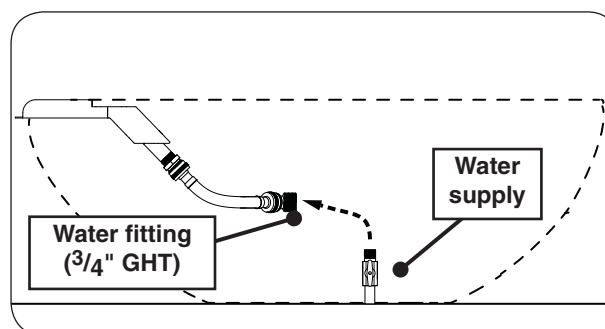

Fig. 25-2 Connect water supply (if applicable)
2. Plumb the water supply to the 3/4" GHT fitting (see Fig. 25-2).